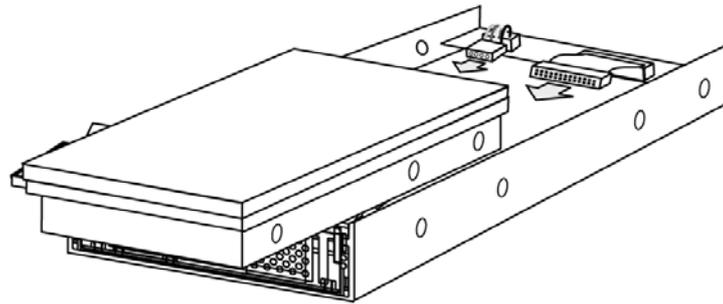

Figure 2-15: PATA Hard Drive Connectors
Step 7. Connect the ATA and power cables. ATA and power cables from the MUX kit must be connected to their corresponding connectors on the hard drive. (See *Figure 2-15*) Make sure that these connections are secure and will not come loose.